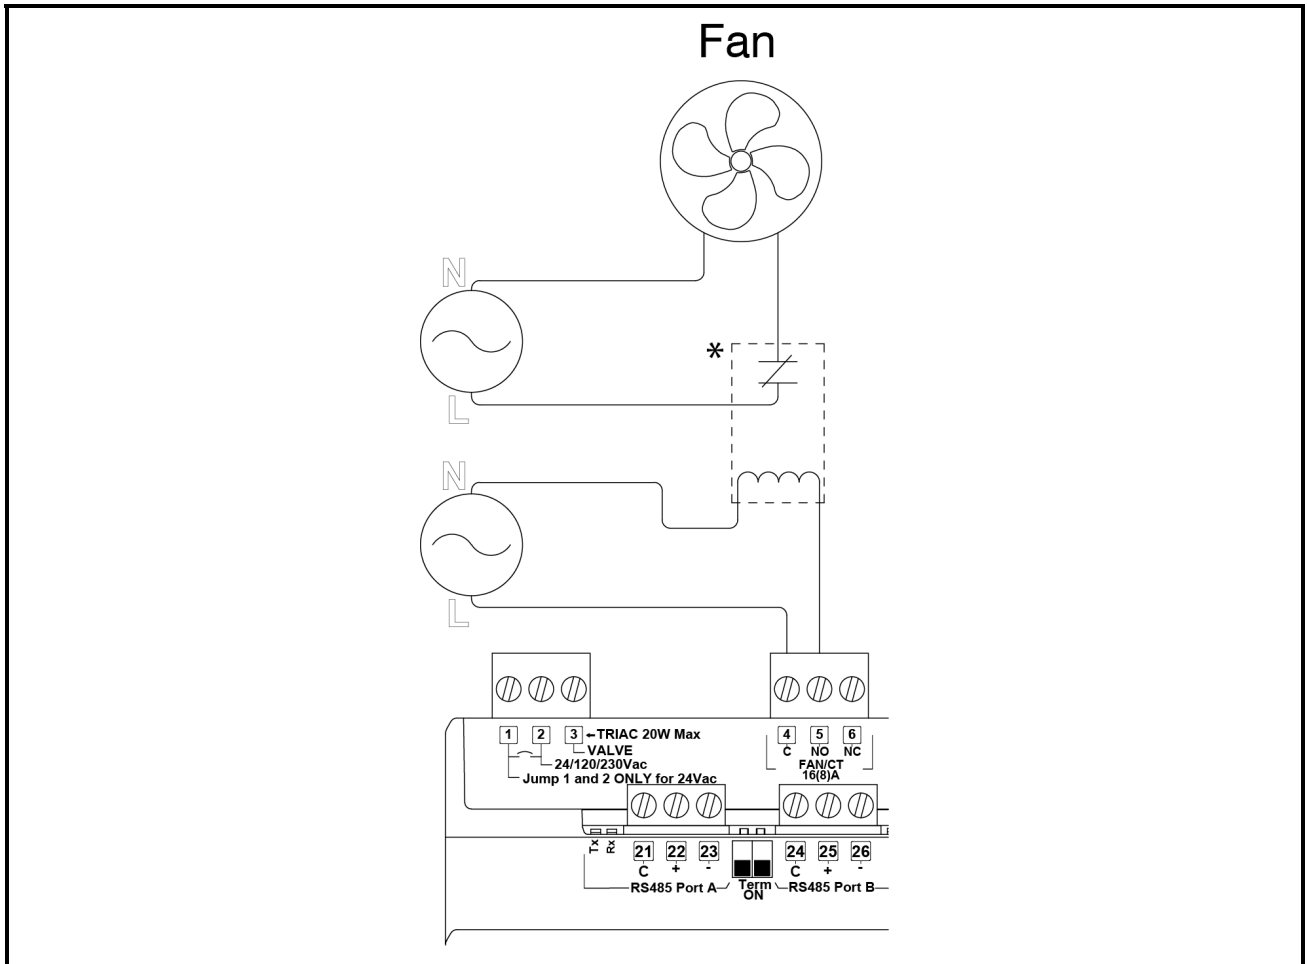

Figure 3-4 - Alternative Fans Over 5 amps
- For fan motors larger than 5AAC the alternate wiring method with a pilot device is required (see *Figure 3-4*).